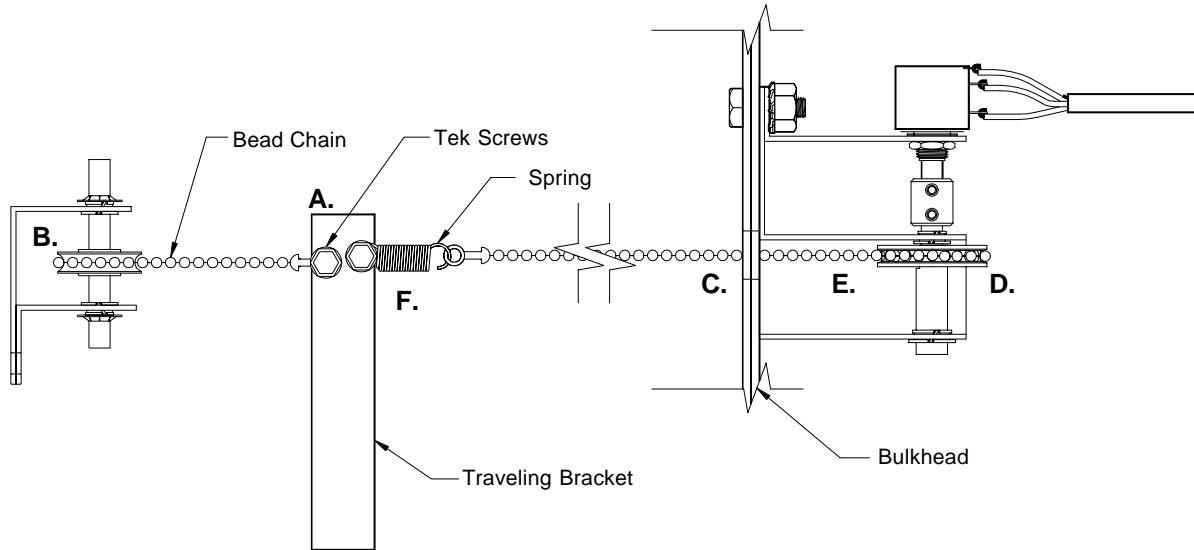

Figure 6
- Attach the spring with a Tek screw to the available hole in the travelling bracket. **See Figure 6.**